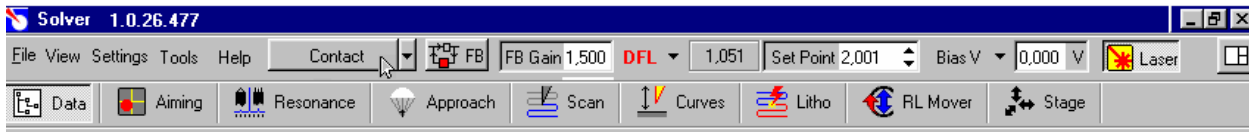

Fig. 3-1
- To switch the device over to the contact mode of operation, it is necessary to set the mode selection switch (the fourth in the main bar) to **Contact** position, as shown on Fig. 3-1;